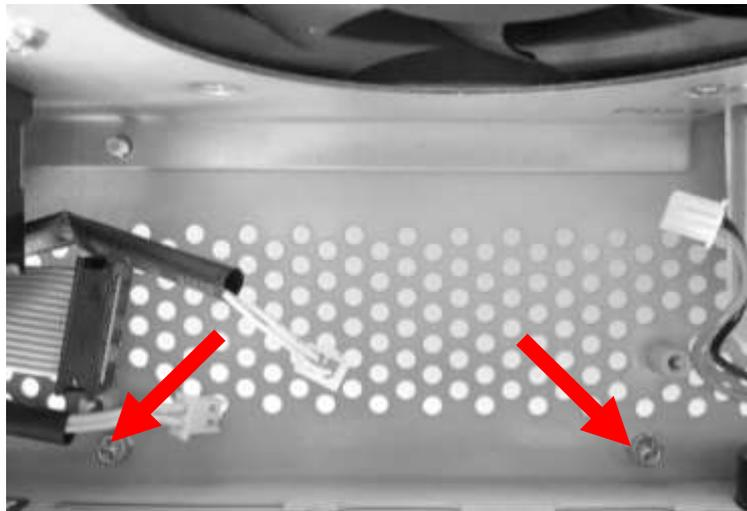

Figure 6: Remove screws from parallel connector cover
7. Remove the two screws shown in *Fig. 6*, which attach the metal parallel connector cover to the inverter. These screws are no longer required.